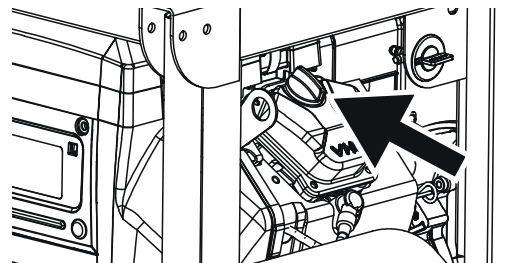

Figure 15 - Oil Fill Plug
5. Remove oil fill plug and wipe clean. (See Figure 15)